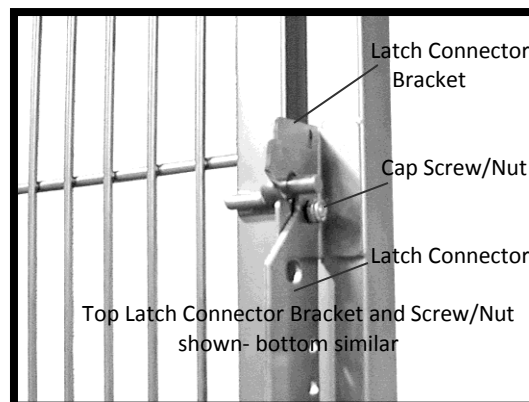

Figure 73: Removing Latch Connector
2. With a Phillips screwdriver and a 7/16 in. wrench, remove the two cap screws and nuts that hold the latch connector to the two latch brackets (Figure 73), and remove the latch connector.